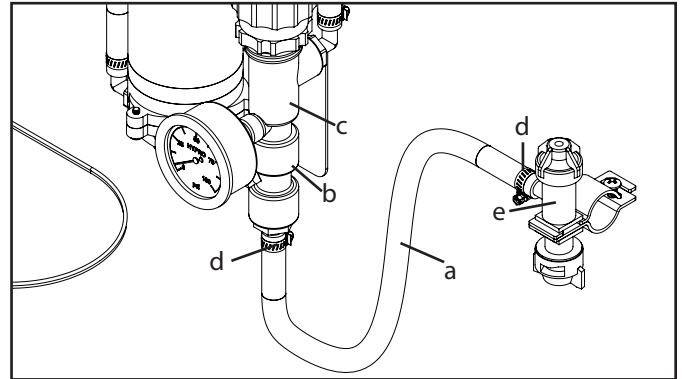

Figure 2: Hose routing
2. Attach the vinyl spray hose (a) to the discharge barb on the poly tee (b) below the relief valve (c) with an included hose clamp (d) (Figure 2).
4. Connect the vinyl hose (a) to the nozzle body (e) with an included hose clamp (d) (Figure 2).